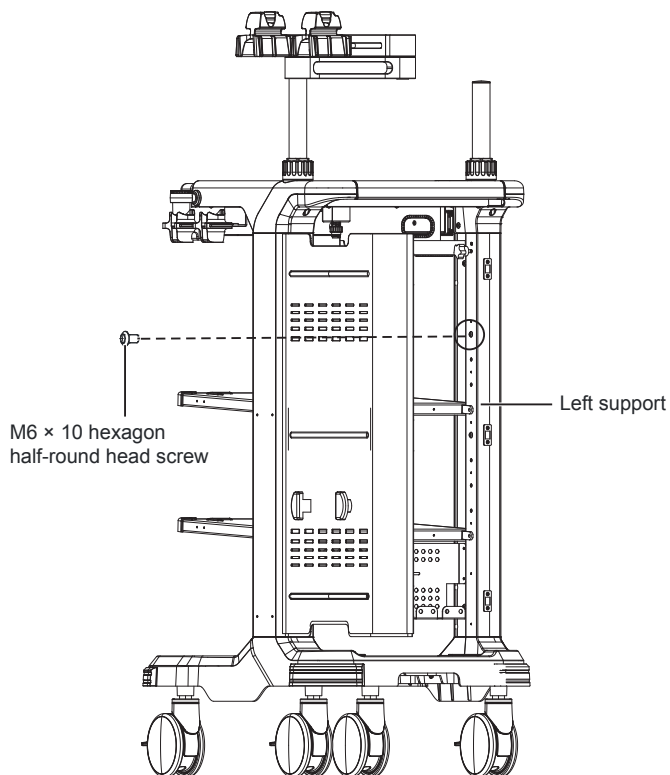

Figure 6 Tightening the Screw on the Left Support
- a. Tighten one $M6 \times 10$ hexagon half-round head screw on the left support by the 4.0 hexagon spanner to avoid swing arm falling, as shown in Figure 6.